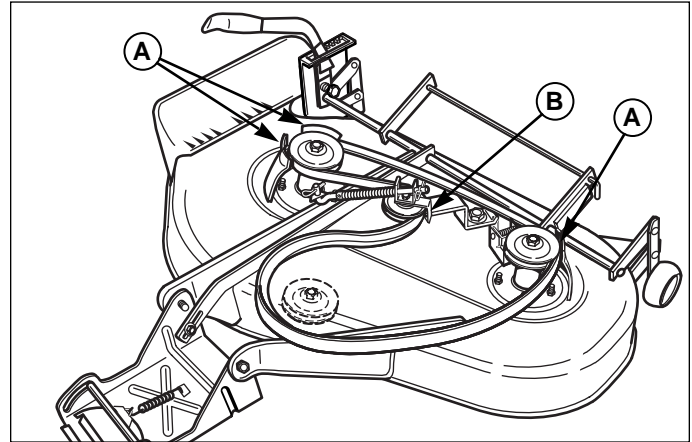

Figure 38. Mower Deck Belt Routing - 38" Deck
3. Loosen the nuts securing the belt guides (A, Figure 38).
4. Note the position of the idler pulley belt guide (B). Loosen the idler pulley capscrew.
4. Remove the old belt from the pulleys and install the new belt as shown in Figure 38.
6. Return the idler pulley belt guide (B) to its original position and tighten the idler pulley capscrew.